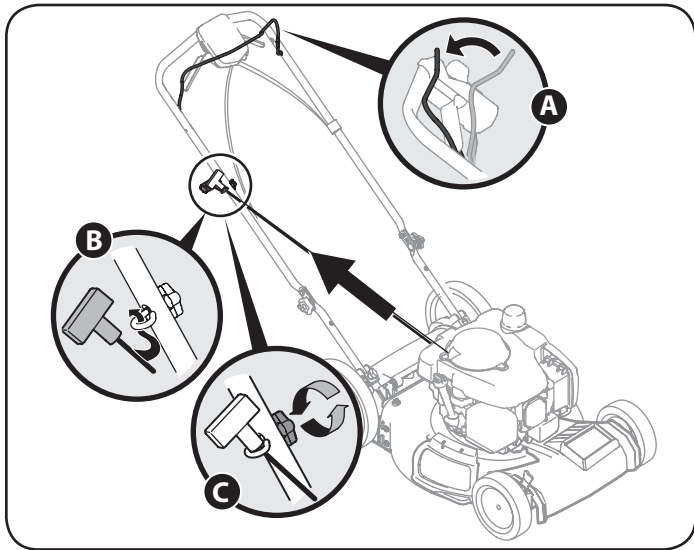

Figure 5
5. The rope guide is attached to the right side of the upper handle. Loosen the wing knob which secures the rope guide. Refer to Figure 5.
- b. Slowly pull starter rope handle from engine and slip starter rope into the rope guide. See Figure 5.